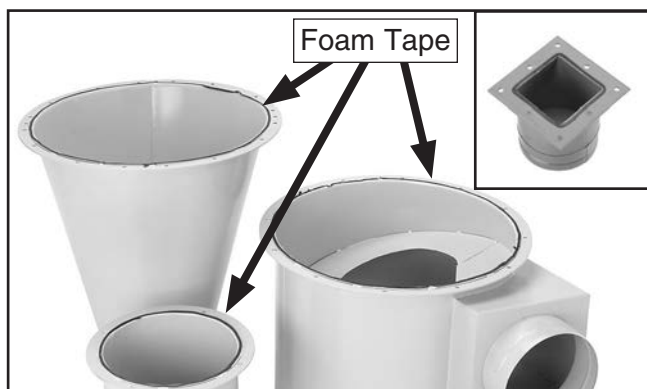

Figure 8. Foam seal tape applied to necessary components.
5. Apply foam seal tape on intake barrel, intake cylinder, cyclone barrel, and outlet port, as shown in **Figure 8**.